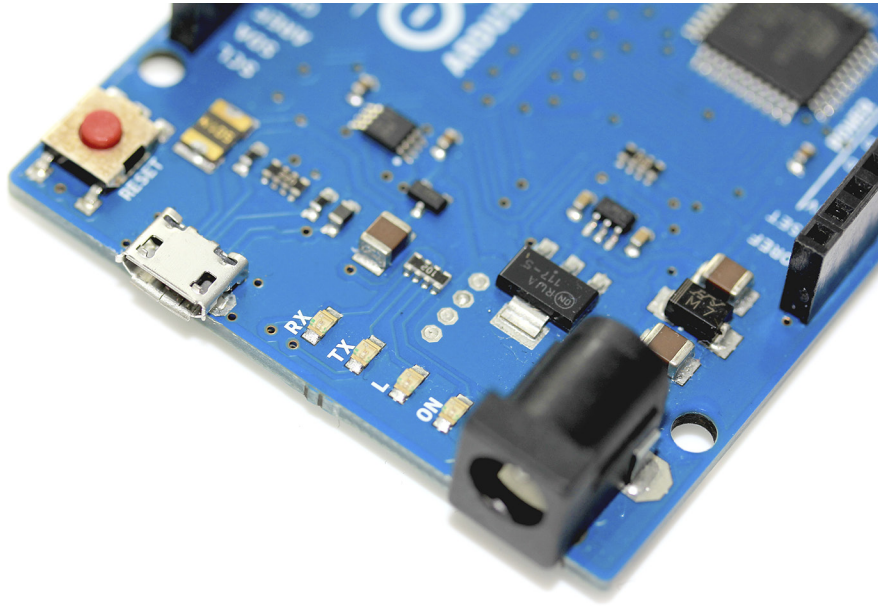

Figure BC-10:
- ✔ The indicator LEDs have been moved. Instead of the usual arrangement of LEDs on the Arduino Uno and previous boards, all the LEDs are found along the left-hand edge of the board between the micro USB socket and the power socket (see Figure BC-10).